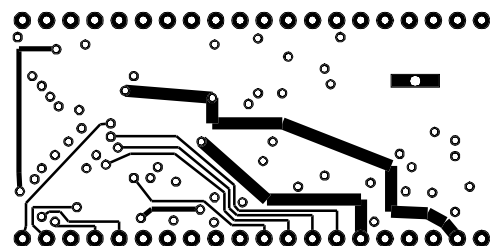

Figure 8. Bottom Layer ( Not to scale ).
- The fourth layer is shown in figure 8.